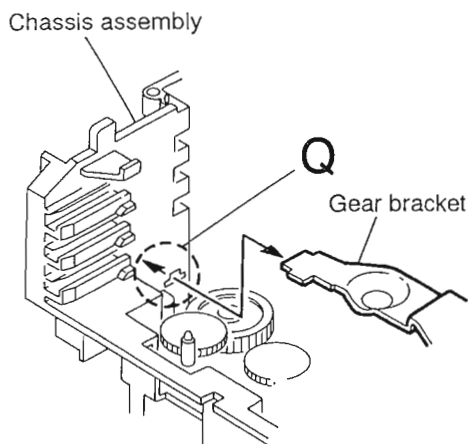

Fig.3-54
3. From the notch "Q section" on the chassis assembly fixing the edge of gear bracket, remove and take out the gear bracket (See Fig.3-54).